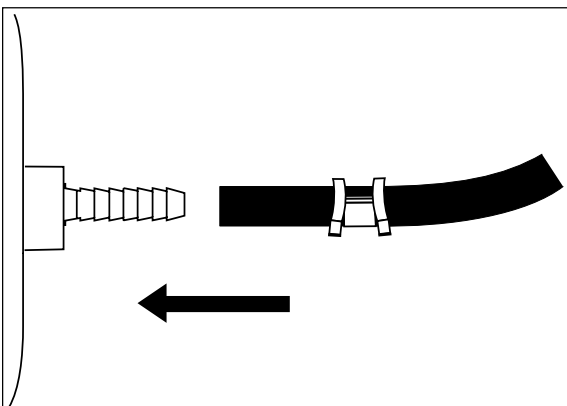

Figure 4
- h. Push the air line onto the stem of the air spring, covering all the barbs (Figure 4).
- e. Push the air line onto the stem of the air spring, covering all the barbed section (Figure 4).
- f. With pliers slide the air line clamp forward until it fully covers barbed section (Figure 4).